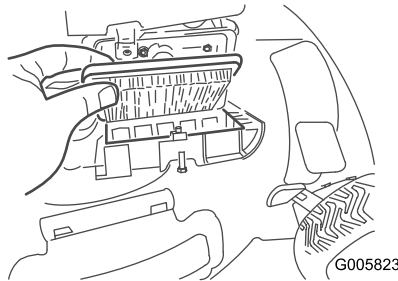

Figure 19
2. Replace the air filter (Figure 19).